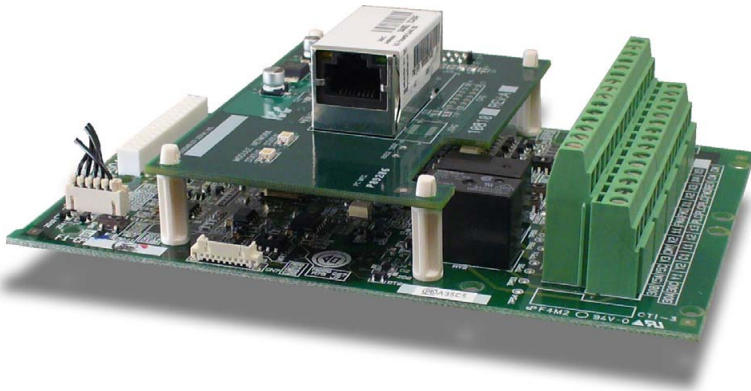
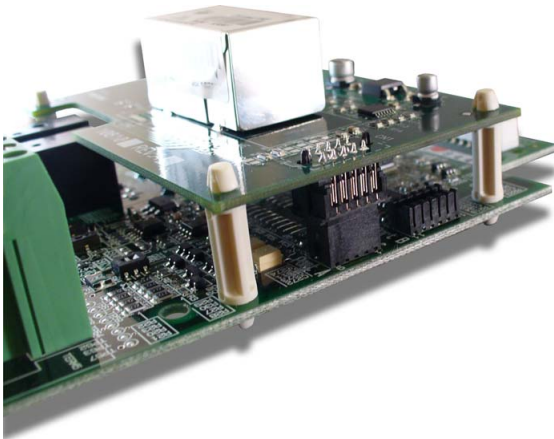

Figure 4: Interface Board Installation Complete
Figure 5: CN1 and "Port A" Connectors Properly Seated
3. Press the interface board onto the tops of the four nylon standoffs, while simultaneously aligning connector CN1 on the back of the interface board with the "Port A" connector on the inverter's control board. Ensure that the retention tabs on the standoffs protrude fully through the holes on the interface board, and that the CN1 and Port A connectors are fully seated. Refer to Figure 4 and Figure 5.